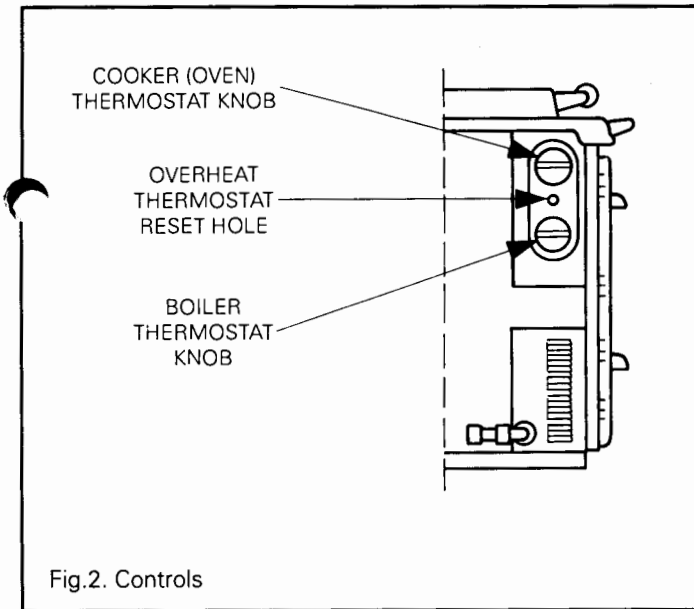

Fig.2. Controls
#### Main Burner Lighting (See Fig 2)
(See Fig 2).
For safety shutdown purposes an overheat thermostat is included (as shown in Fig 2).
To increase the temperature of the hotplate and ovens turn the thermostat knob (see Fig 2) to the required setting.
**NOTE:** Hotplate cooking is quicker when the gas burner is on high fire. So increase the setting of the thermostat knob (see fig 2) to increase the temperature of the hotplate. (The hotplate gains in heat quicker than the oven).
This oven is thermostatically controlled by the thermostat knob (see fig 2). When the oven reaches the desired temperature this is maintained by the thermostat.
Some examples of items that are suitable for the lower oven temperatures are given below, for these times the thermostat knob (see Fig 2) is above setting 6:-
The programmer can be set to give the desired cooking temperature when you want it, without having to wait for the warming up period. For example, if you wish to cook breakfast at 7.30am, the programme can be set to give the required heat up time prior to this. Thus, if it takes 60 minutes to come to the temperature you require, the programmer will be set to operate at 6.30am and the thermostat knob (see fig.2) set to the position you require, the night before. The cooker will continue to operate at LOW until the programme switches on at 6.30am, when the cooker will commence to warm up. The 'Time Off' will need to be set to allow sufficient time for your cooking period.